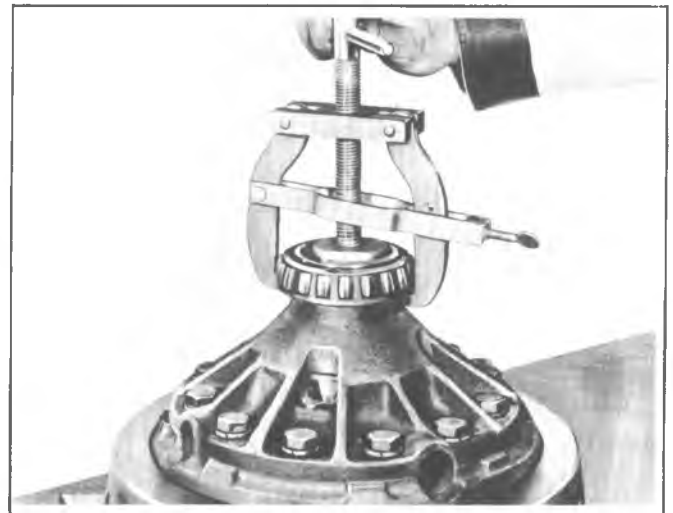

Fig. 7G--Differential Bearing Removal
1. Install Tool J-8107 making sure puller legs are fitted securely in notches in case and tighten retaining yoke as shown in figure 7G.